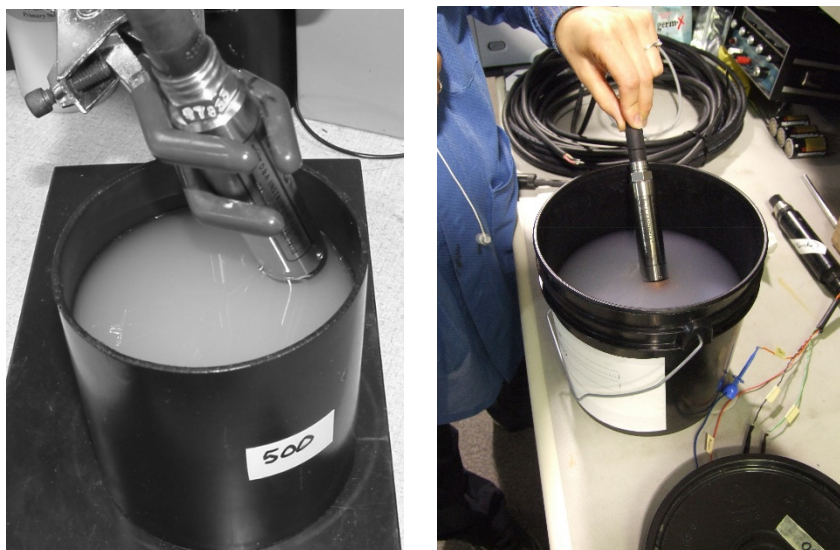

**FIGURE 8-2.** Position of OBS-3+ (left) and OBS300 (right) in clean tap water in big black tub
1. In a large black tub of fresh tap water, aim the OBS sensor so that it's the maximum distance from the sensor optics to the far corner of the tub (see FIGURE 8-2). Record a 10-second average of the low-range output. Record the average output on the calibration log sheet.
1. Record and log the clean-water signal as in Step 1, Section 8.1.3, Procedure (p. 17); see FIGURE 8-2.